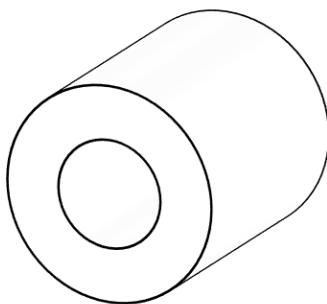

Figure 2
3. Apply hidden and centre lines on the sketch in Figure 2.